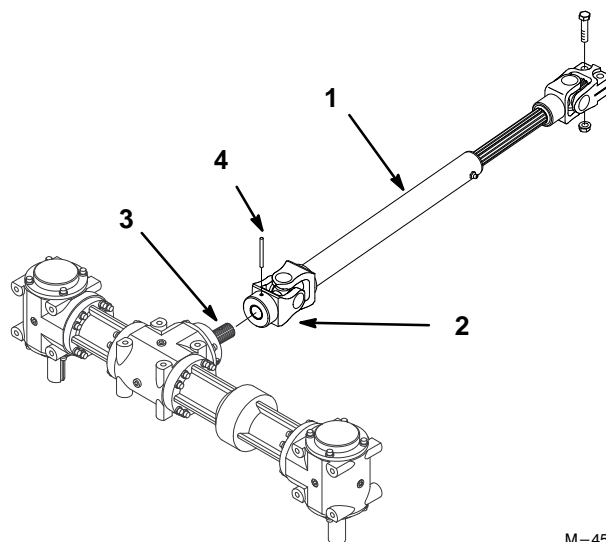

Figure 5
8. Rotate PTO drive shaft so holes align with hole in gearbox shaft and slide together (Fig. 5).
9. Drive roll pin through hole to secure PTO drive shaft to gearbox shaft (Fig. 5).